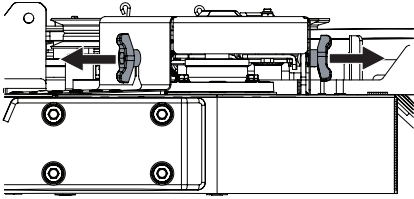

Figure 54
- Remove the hex thumb screws securing the belt covers to the deck (Figure 54).